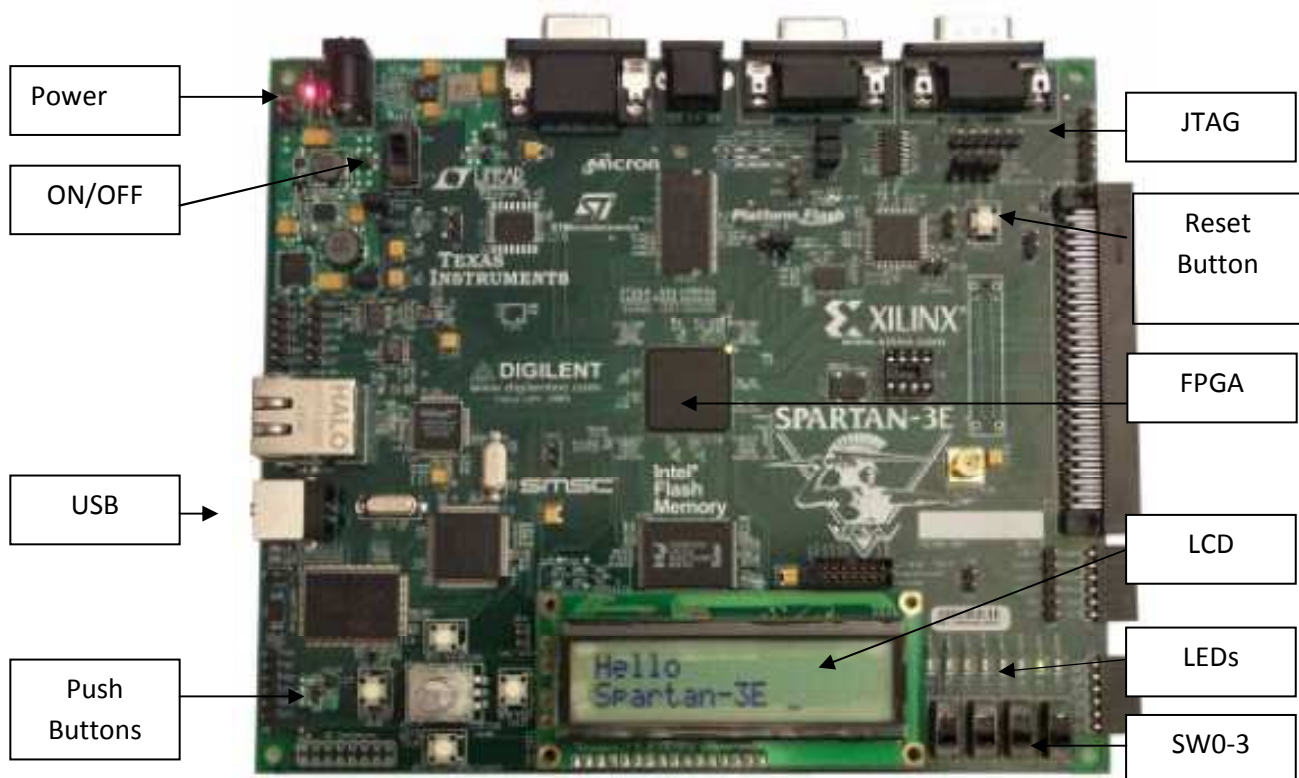

Figure 2.1: Spartan-3E Development Board.
- The Spartan-3E Starter Kit, including the Spartan-3E development board, power cable and USB cable for PC connection. The Spartan-3E development board is shown in Figure 2.1.